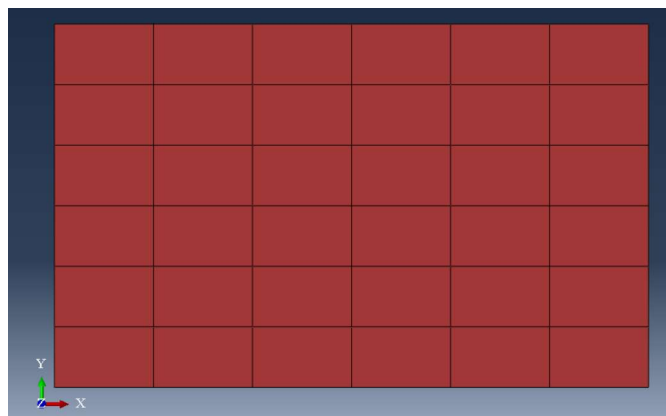

Fig.1 Macroscale shell element
- (1) Build the macro-scale model in ABAQUS as shown in Fig.1. Ensure that the macro-model is bigger than the RVE micro-structure.
- (2) Mesh it as per requirement. These elements serve as the macro-element, see Fig.1.